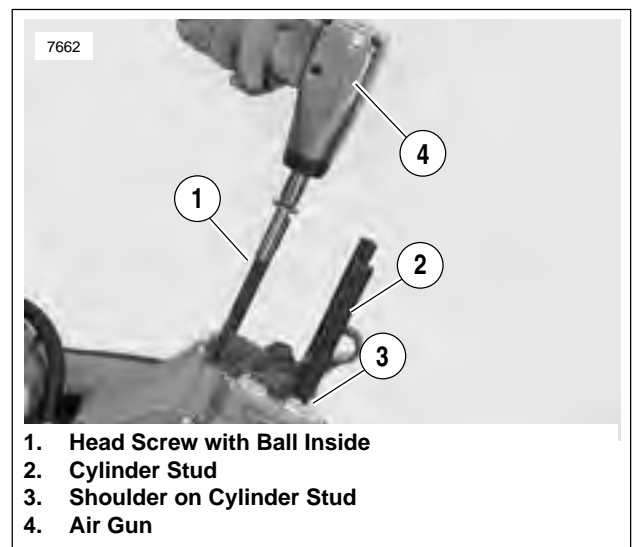

Figure 3-135. Cylinder Studs
15. See Figure 3-135. Install cylinder studs.